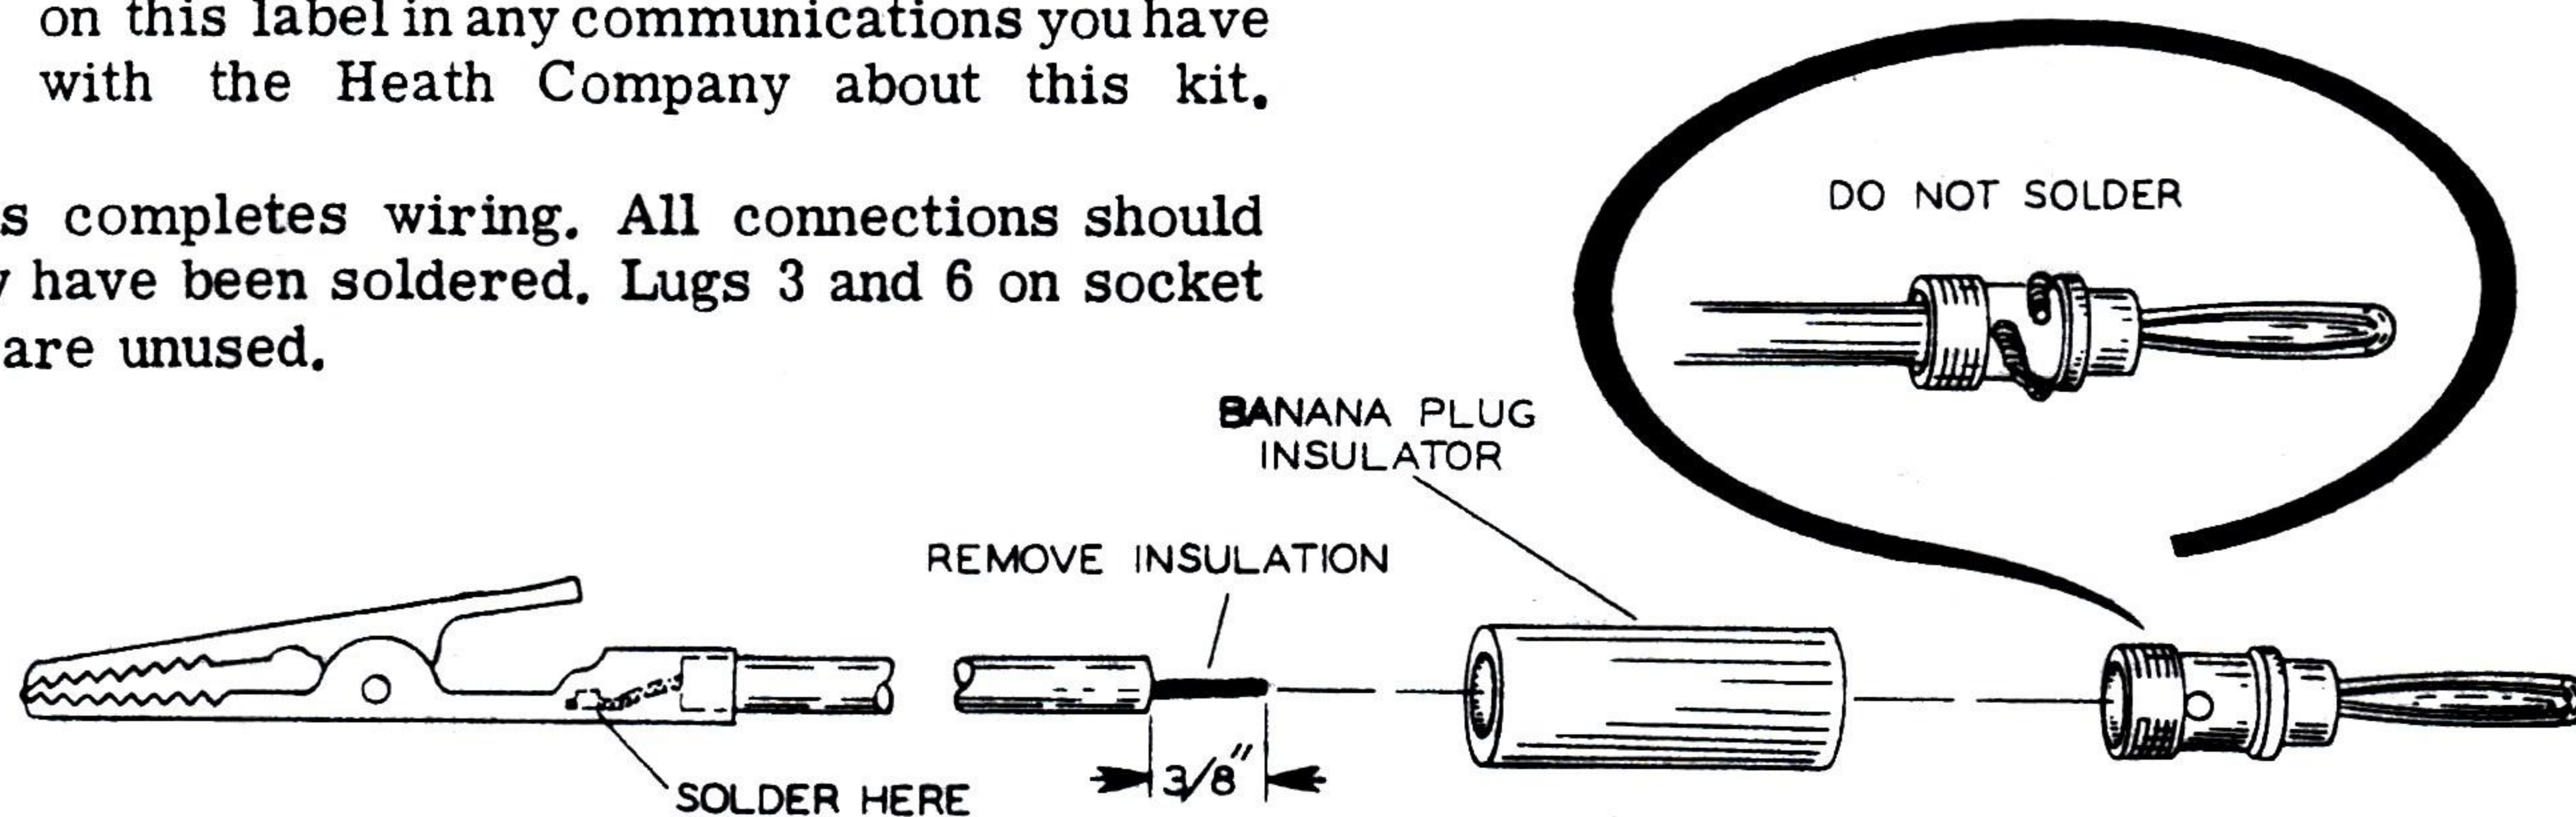

Figure 1
- ( ) Strip both ends of the lengths of black and red test lead. Prepare each of the test leads as shown in Figure 1.